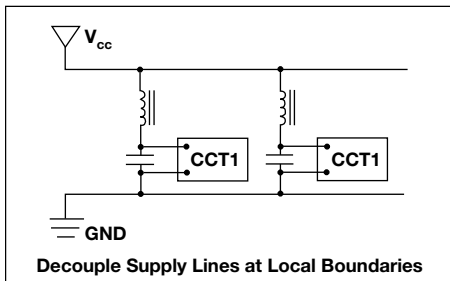

Fig. 8
- Decouple supply lines at local boundaries. (Fig. 8)